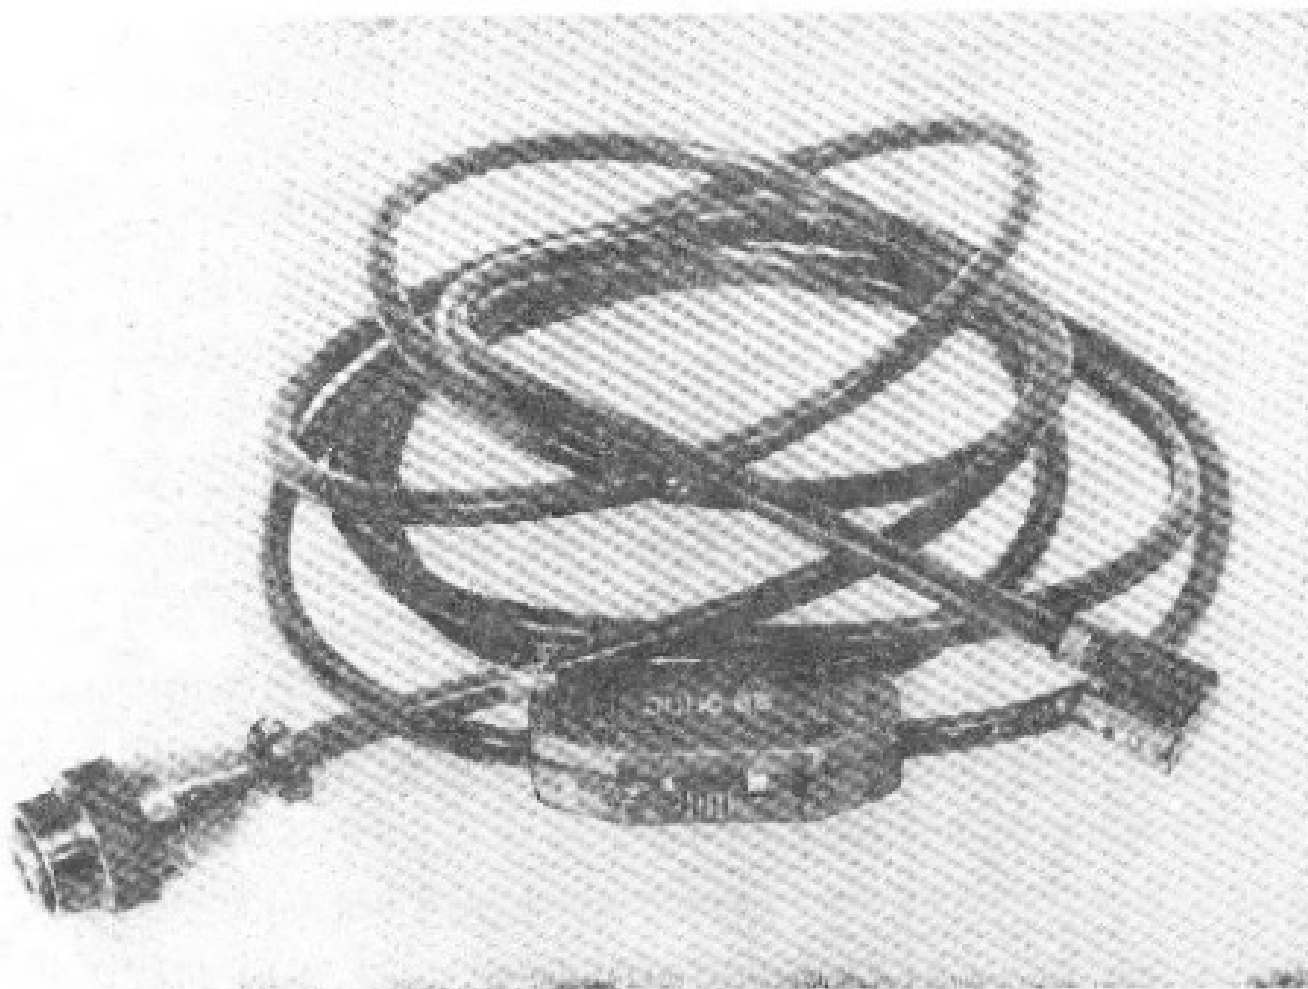

Fig. 3. Extension cable
4. 3. The electronic unit consists of a board and a power transistor enclosed in a casing. All electrical elements of the circuit are mounted on the board. On the side wall of the electronic unit there is a pre-keeper 5, a connector 4 designed for connecting the "pilot-tone" cable, a connector 6 designed for connecting a power cable or an extension cable (Fig. 3). The indicator light 7 serves to monitor the discharge of the battery battery. The light bulb gorenje indicates a normal charge of the accumulator battery. When the battery is discharged below 10.3-10.8 V, the light bulb will not light.